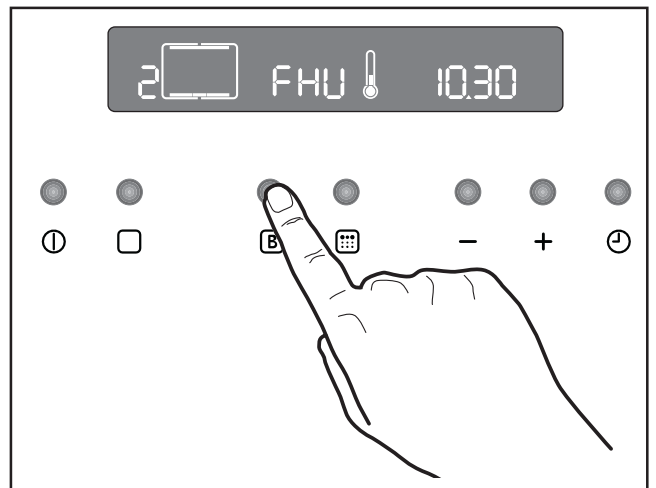

Fig. 16
1. Switch the oven on by pressing button (I).
4. Press button (B). The temperature display will show “FHU” (Fig. 16).